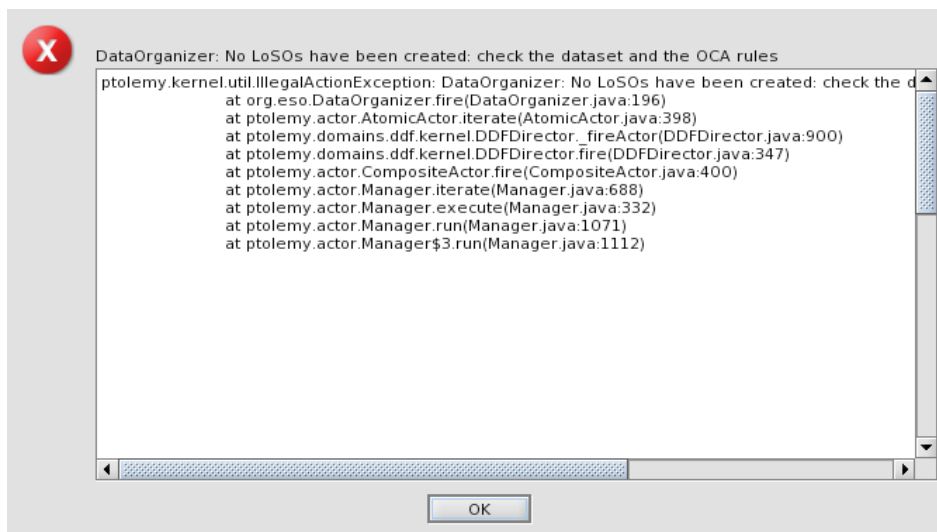

Figure 8.0.10: *TheDataOrganizer* interactive window reports an error “:No LoSOs have been created, check the data set and the OCA rules.”.
1. **I downloaded the data from the ESO archive, put them into a new directory, tried to run *Reflex* on them, but it fails with error message “:No LoSOs have been created, check the data set and the OCA rules.”(see Figure 8.0.10.)**